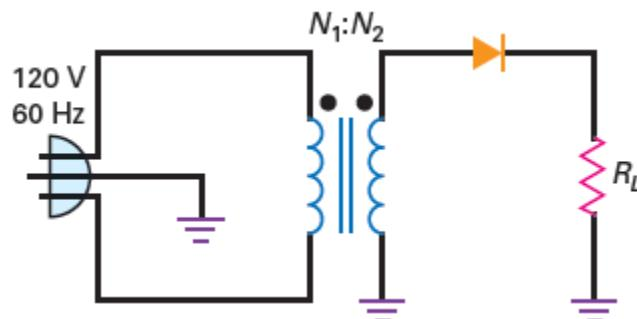

Figure-38 Half-wave rectifier with transformer
- Figure-38 shows a transformer. Here, you see line voltage applied to the primary winding of a transformer. Usually, the power plug has a third prong to ground the equipment. Because of the turn's ratio **N₁/N₂**, the secondary voltage is stepped down when **N₁** is greater than **N₂**.